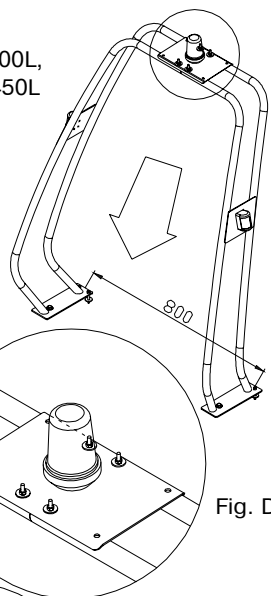

Fig. D2b
- for boats F400, F450 – 800mm (Fig.D2b);